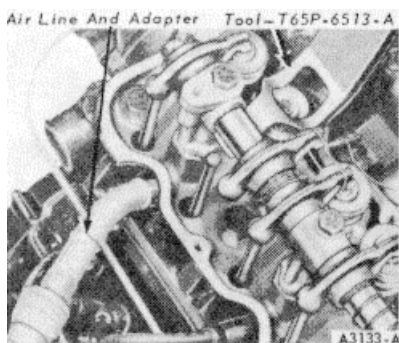

FIG 33. Compressing Valve Spring
4. Tighten the attaching bolts just enough to seat the rocker arm shaft supports on the cylinder head. Push the rocker arm to one side and secure it in this position (Figure 33). To move the rocker arm on either end of the shaft, it will be necessary to remove the retaining pin and spring washer and slide the rocker arm off the shaft.
5. Turn on the air supply. **Air pressure may turn the crankshaft until the piston reaches the bottom stroke.** Using the valve spring compression tool shown in Figure 33, compress the valve and remove the valve spring retainer locks, the sleeve, spring retainer and the valve spring. **If air pressure fails to hold the valve in the closed position during this operation, it can be presumed that the valve is not seating or is damaged. If this condition occurs, remove the cylinder head for further inspection.**